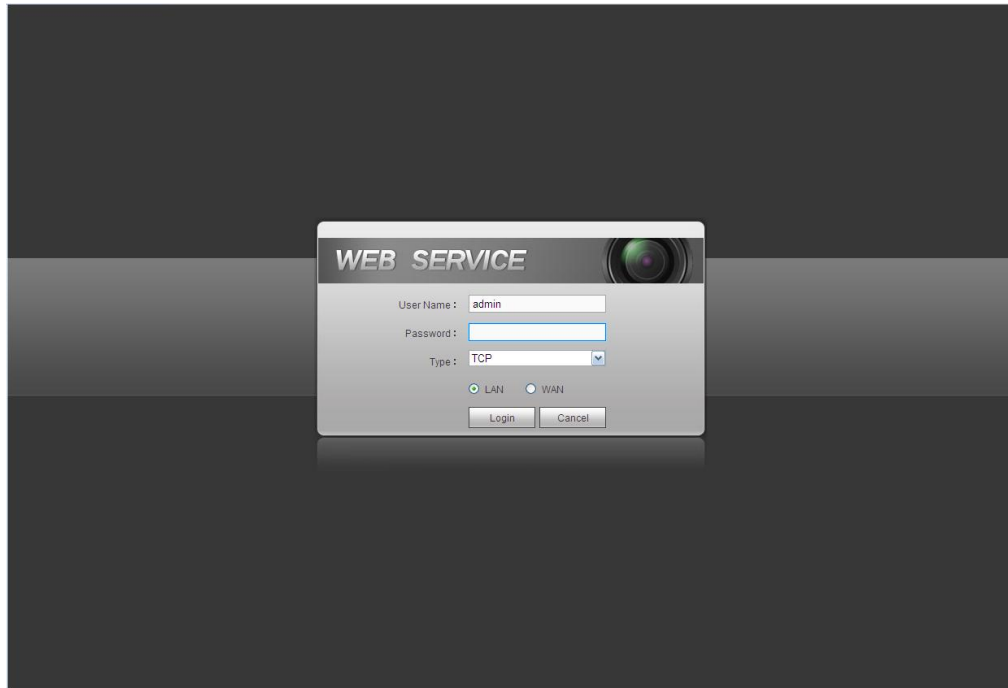

Figure 3-1
- 2) System pops up warning information to ask you whether install webrec.cab control or not. Please click yes button. If you can't download the ActiveX file, please modify your IE security setup. After installation, the interface is shown as below. See Figure 3-1.